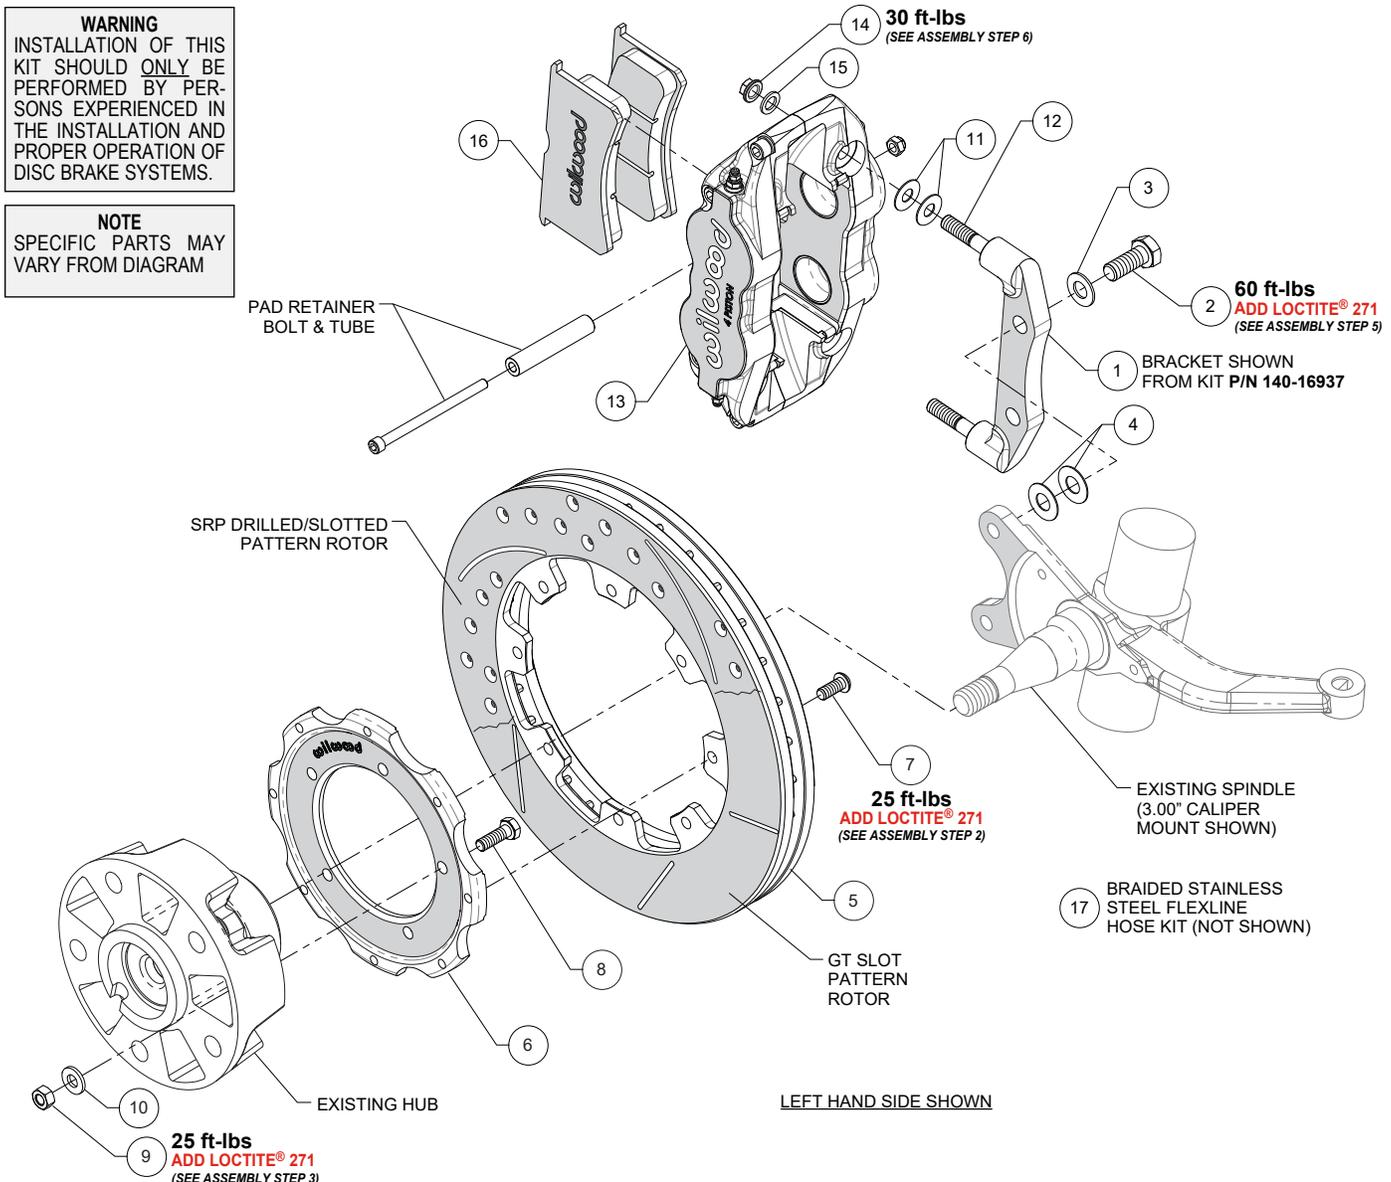

Figure 1. Typical Installation Configuration
**NOTE:** Numbers in parenthesis refer to the parts list and Figure 1 on the preceding pages.
**STEP 1** The caliper mount bracket (1) should initially be installed with clean, dry threads on the mounting bolts. Orient the bracket, as shown in Figure 1 and Photo 1, and install using bolts (2) and washers (3). Initially place two .033" thick shims (4) on each bolt between the bracket (1) and upright, Figure 1. Temporarily tighten the mounting bolts. **NOTE:** The bracket must fit squarely against the mount bosses on the upright. Inspect for interference from casting irregularities, machining ridges, burrs, etc. Later, after the caliper alignment has been checked, the mount bolts will be secured using red *Loctite*® 271.
**STEP 2** Orient the rotor (5) and the hat (6) as shown in Figure 1 and Photo 2. Attach rotor to hat using bolts (7). Apply red *Loctite*® 271 to the bolt threads and torque to value shown in Figure 1 using a criss-cross pattern.
**STEP 3** Orient the Wilwood rotor/hat assembly (5/6) as shown in Figure 1 and Photo 3. Attach OEM hub assembly to rotor/hat using bolts (8), nuts (9), and washers (10), Photo 4. Apply red *Loctite*® 271 to the bolt threads, and torque nuts to value shown in Figure 1 using a criss-cross pattern.
**STEP 5** Initially place two .035" thick shims (11) on each stud (12) between the caliper (13) and the bracket (1), as shown in Figure 1 and Photo 6. Mount the caliper (13) onto the bracket (1) using lock nuts (14) and washers (15), Figure 1. Temporarily tighten the lock nuts. View the rotor through the top opening of the caliper. The rotor should be centered in the caliper, Photo 7. If not, adjust by adding or subtracting shims (4) between the bracket and the upright. Always use the same amount of shims on each of the two mounting bolts. Once the caliper alignment is correct, remove the bracket mounting bolts (2) one at a time, apply red *Loctite*® 271 to the threads, and torque to value shown in Figure 1.
**STEP 6** Remove the caliper pad retainer bolt, nut, and tube from the caliper. Insert the brake pads (16) into the caliper, with the friction material facing the rotor. Check that the top of the brake pad is flush with the outside diameter of the rotor, Photo 8. If not, adjust by adding or subtracting shims (11) to the stud (12) between the caliper (13) and the caliper mount bracket (1). After the caliper pad height is set, torque the caliper lock nuts (14) to value shown in Figure 1. Secure the brake pads in place with the pad retainer tube, bolt, and locknut, Photo 9. The locknut should be snug without play in the bolt or tube. Be cautious not to over tighten.